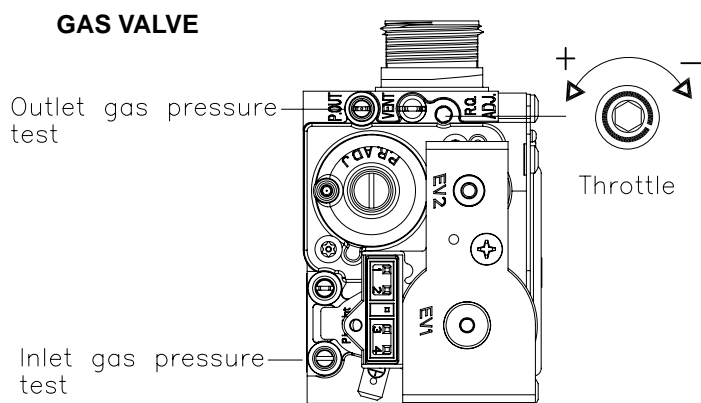

Fig. 34
- 2 - Check gas mains pressure at the gas valve test nipple upstream (Fig.34) with boiler operating. Sect.6.8.
Check the gas mains pressure at the gas valve inlet pressure test (Fig.34) with boiler operating.
IMPORTANT : the Gas Valve Throttle adjuster is required to be sealed with tamper proof paint after adjustment (fig. 34).
Refer to tables 1/A, 1/B, 1/C and 1/D section 3 adjust the maximum level of CO₂ by turning the Throttle (allen screw 2.5 mm) on the gas valve (Fig.34).